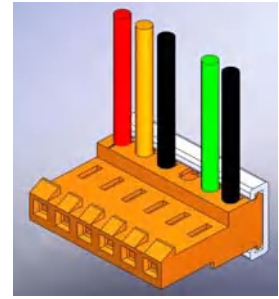

Figure 1: Connector.
- Trim wires to desired length. The green and black wires are the sensor and ground connection, and connect to cavities 5 and 6 of the orange connector respectively (see Figure 1).
8  Install the connector onto the back of the gauge (angled portion on end of connector pointing up as in Figure 1), and then secure the gauge in its mounting location. If drilling a mounting hole in a panel to mount this gauge, the hole size should be 2.040”. Mounting Kit R19999 is available for larger mounting holes up to 2.200”.